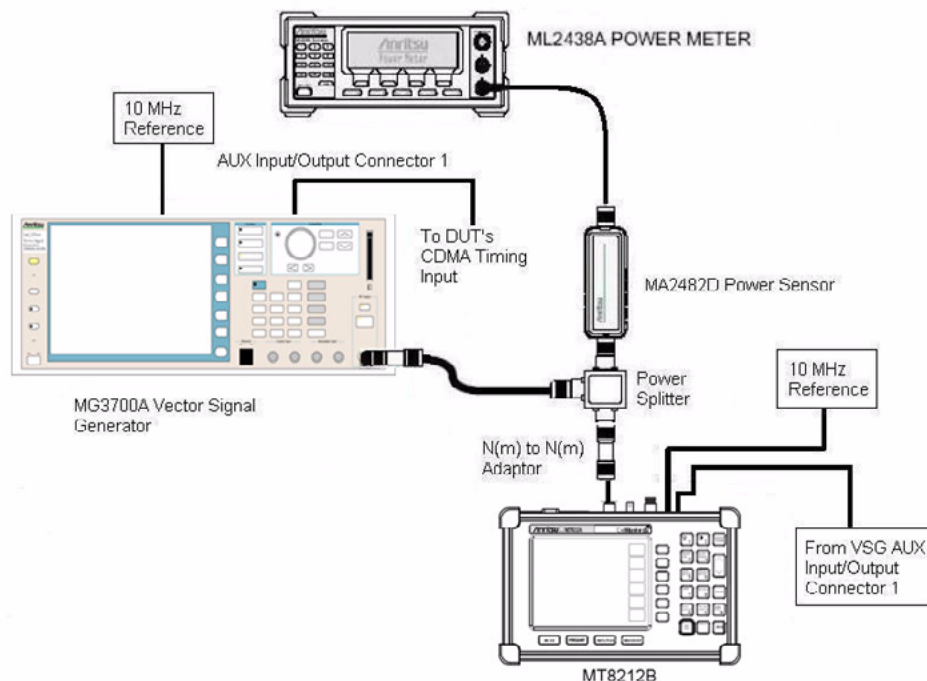

Figure 3-9. CDMA Signal Analyzer Setup
1. Connect the equipment as shown in Figure 3-9. Ensure that the external 10 MHz reference is connected to both the 10 MHz Ref input of the MG3700A and the Ext Freq Ref input of the MT8212B.